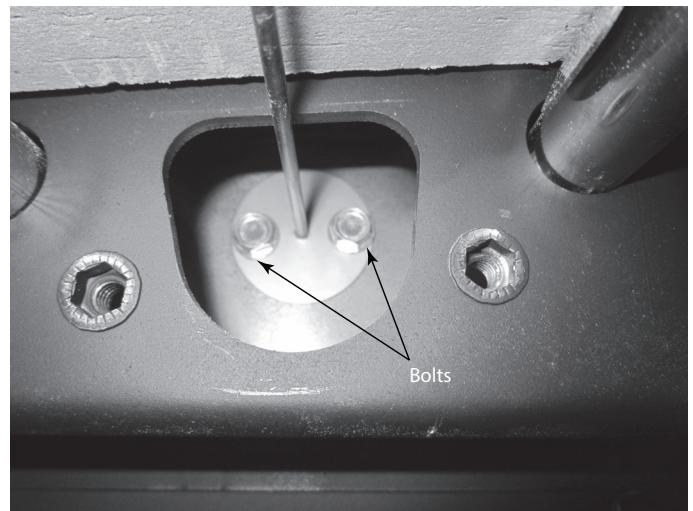

Figure 4.8 Remove Bolts
- Using a long 3/8" nut driver, remove the (2) bolts in through the hole holding the thermocouple on. See Figure 4.8.